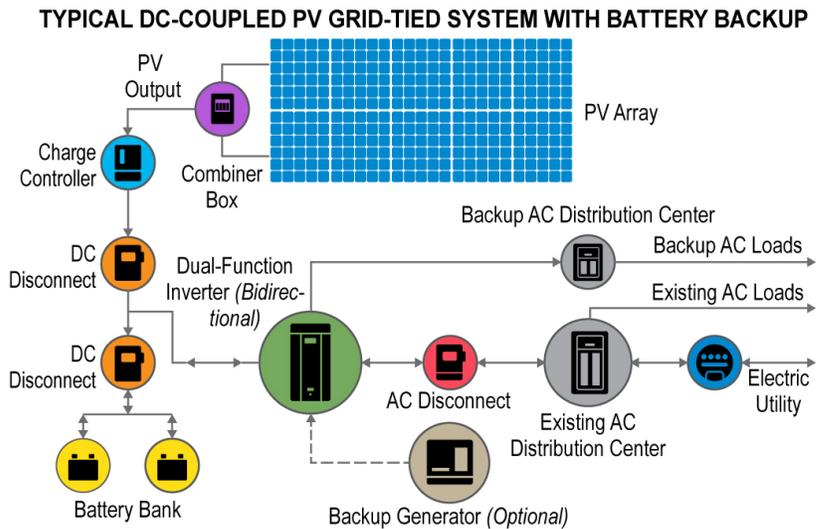
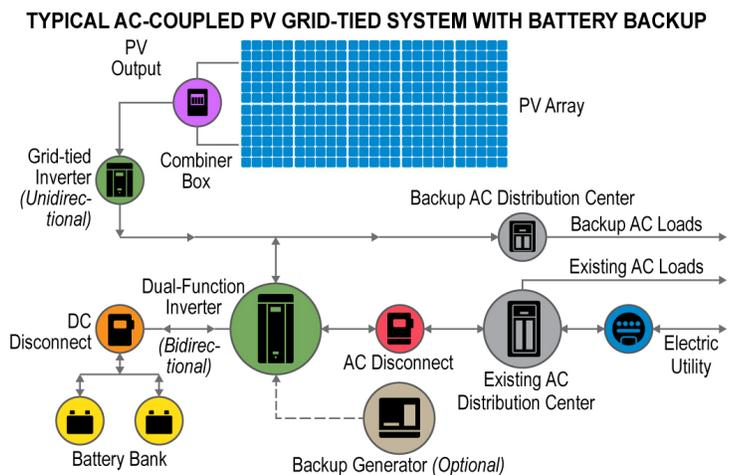

Figure 1. Typical components of a PV+ storage system (DC-coupled)
Figure 2. Typical components of a PV+ storage system (AC-coupled)
Design of PV with battery back-up is described in terms of how the battery back-up is integrated into the system. Solar modules and batteries typically generate and use direct current (DC) electricity. However, most appliances and the grid typically use alternating current (AC) electricity. DC energy must therefore go through an inverter to be converted into AC energy for use by appliances and the grid. Battery back-up can be integrated into the system on either the DC (DC-coupling) or AC (AC-coupling) side of the system. The majority of new resilient PV systems use a DC-coupled configuration when solar is not already in place. Figure 1 on page 2 illustrates a typical DC-coupled, grid-tied configuration. Existing systems that are retrofitted with battery back-up tend to use an AC-coupled design. Figure 2 on page 4 shows a typical AC-coupled, grid-tied configuration).
*AC coupled* system designs are typically used to retrofit an existing solar system to add batteries. These systems use two separate inverters: one for the solar, and one for the batteries. They replace the charge controller in a DC-coupled system with a GTI (see Figure 2). Some GTIs are sensitive to AC supply and do not support an AC-coupled storage installation. It is important to research the existing inverter specifications prior to adding storage to a PV system. AC-coupled systems require additional conversions between AC and DC, which decreases the overall efficiency of the PV system. (Clean Energy Group March 2015)